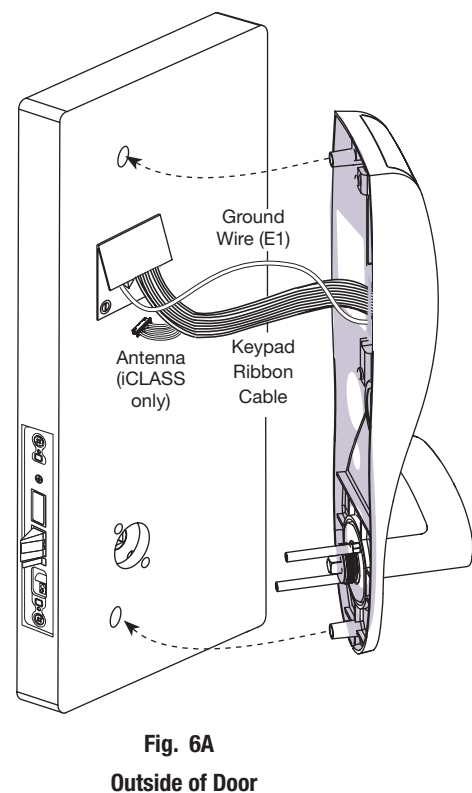

Fig. 6A
- 1A. For fire rated doors, feed ribbon cable with connector and ground wire from outside of door through weatherseal gasket and fire stop plate (Fig. 6A).
- 1B. For non-fire rated doors, feed ribbon cable with connector and ground wire from outside of door through weatherseal gasket (if used) and weather conduit (Fig. 6A).